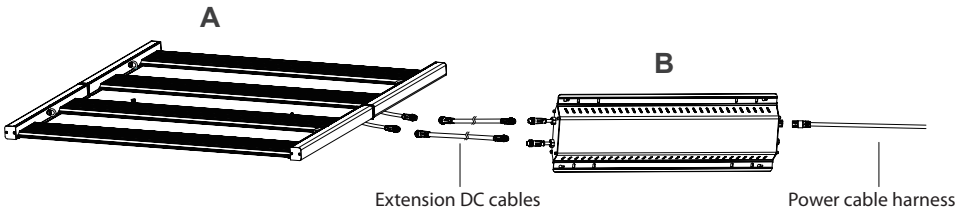

Fig. 14
Step 3. Connecting LED light panels to the driver. As Fig. 14, plug in one side of the extension cables to the driver. Plug the other side of the extension cables to the DC connectors of the LED light panels.